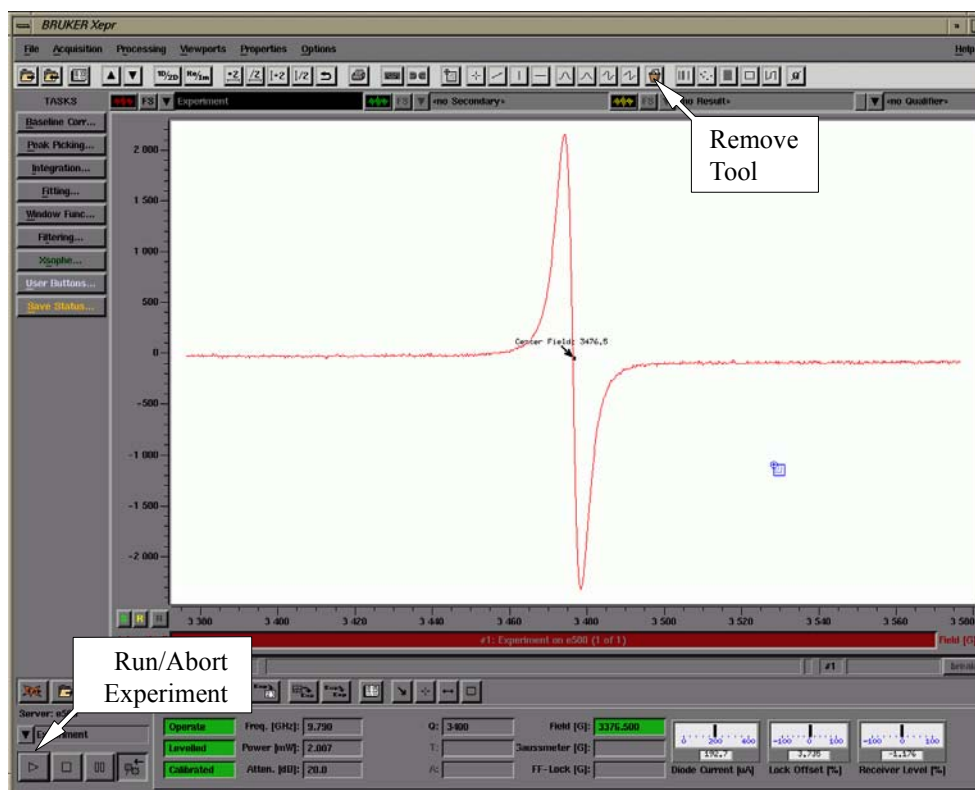

Figure 3-23 The centered spectrum.
This action replaces the center field value with the magnetic field position of the marker. To acquire the spectrum with the new center field, click the **RUN** button in the monitoring panel. The newly acquired spectrum will then be nicely centered. (See Figure 3-23.)
12. **Remove the center marker.** You may remove the center marker by clicking the **Remove Tool** button in the tool bar. (See Figure 3-23.) The **Remove Tool** function removes the current active tool.